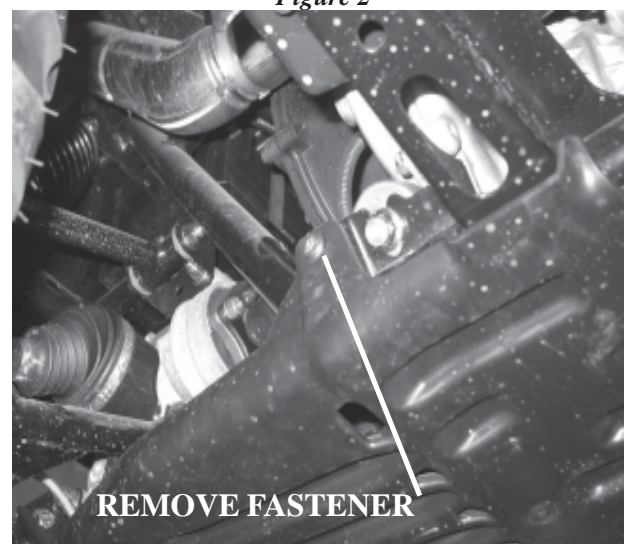

Figure 3
3. Remove the 1 fastener securing the rear skid plate on the right side of vehicle just in front of the rear wheel. Retain this fastener it will be used when installing the new skid plate, figure 3.